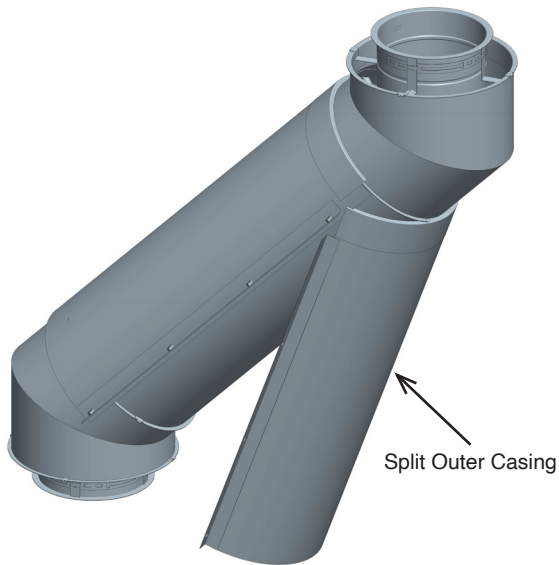

Figure 29 - Step 13 - Install of Split Outer Casing
13. Install the split outer casing that covers from the outer wall of the inlet end section to the outer wall of the outlet end section. See Figure 29.